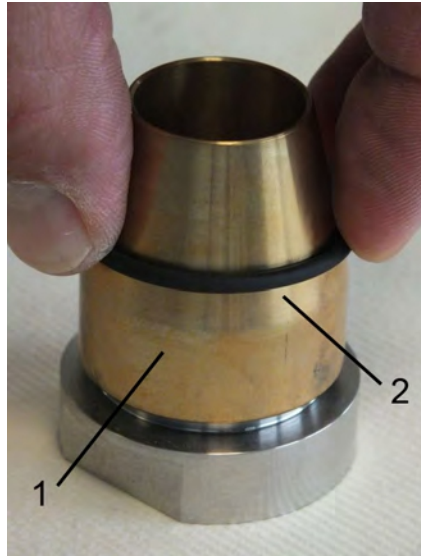

Fig. 48: O-ring (seal)
1. ➤ Carefully install the O-rings (Fig. 48/2) with the aid of the O-ring installation tool (Fig. 48/1) onto the process connections (inlet and outlet), so that they are properly seated in the O-ring grooves of the process connection (Fig. 49/1). When doing so, be careful not to overstretch the O-rings.